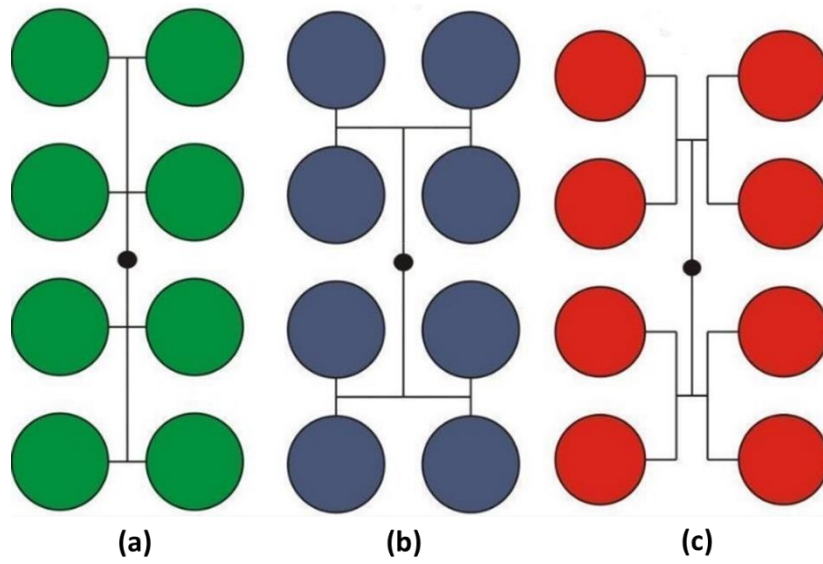

Figure 3: Three runner systems
- (c). Discuss the differences among the three runner systems in Figure 3 and suggest which runner system is suitable for mould design. Explain by giving an example for the runner system.